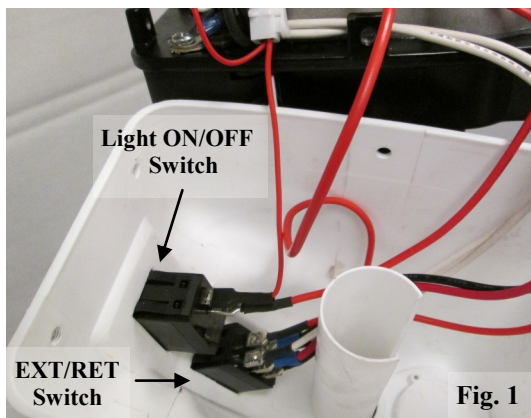

Fig. 1
2. Remove cover screws and turn the cover upside down in order to expose wiring and switches (Fig. 1). Take note of wire and switch placement.